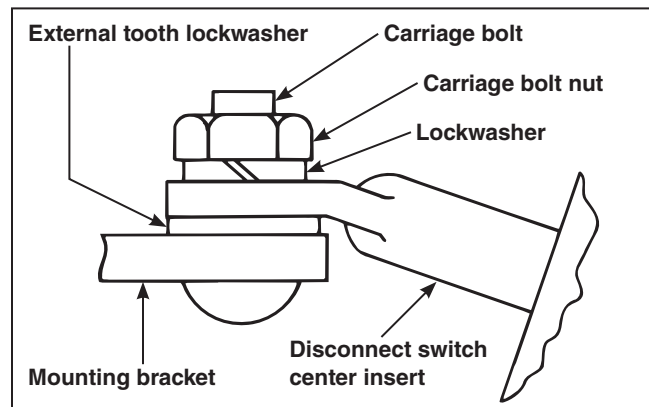

Figure 2. Attachment of Loadbuster Disconnect Switch to mounting bracket.
- STEP 3.** Attach the Loadbuster Disconnect Switch to a suitable mounting bracket as illustrated in Figure 2. Note: A mounting bracket—suitable for crossarm, pole, or wall mounting—is furnished only if it has been specified through the addition of suffix “-B” to catalog number of Loadbuster Disconnect Switch. Tighten the carriage bolt nut until snug but still loose enough to permit pivot adjustment. Note the placement of the external-tooth lockwasher between the disconnect center insert and the mounting bracket.